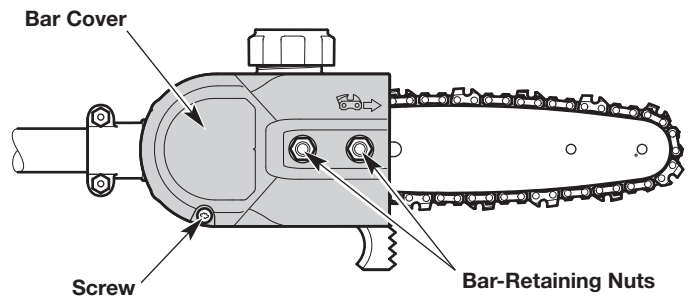

Fig. 10
1. Remove the screw and two (2) bar-retaining nuts (1/2 inch) (Fig. 10).
2. Remove the bar cover (Fig. 10).
1. Loosen the bar-retaining nuts, but do not remove them (Fig. 10).